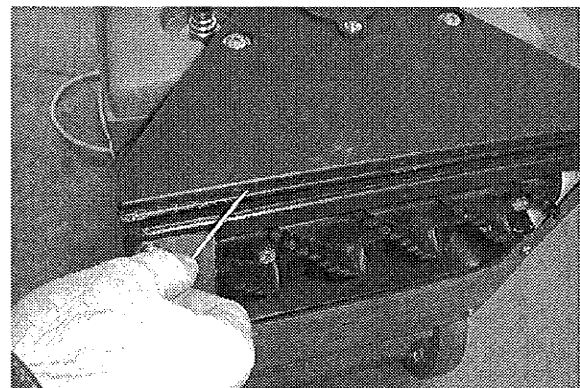

FIG. 17
6. Remove any debris lodged in pick up head (Figure 17).